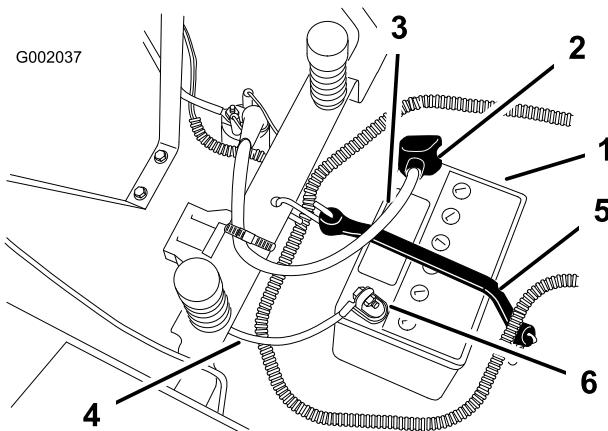

Figure 32
4. Disconnect the negative (black) ground cable from the battery post (Figure 32).
5. Slide the rubber cover up the positive (red) cable. Disconnect the positive (red) cable from the battery post (Figure 32).
6. Remove the battery hold-down (Figure 32) and lift the battery from the battery tray.
1. Position the battery in the tray with the terminal posts away from the control panel (Figure 32).
4. Secure the cables with 2 bolts (1/4 x 3/4 inch), washers (1/4 inch), and nuts (1/4 inch) (Figure 32).
6. Secure the battery with the hold-down (Figure 32).